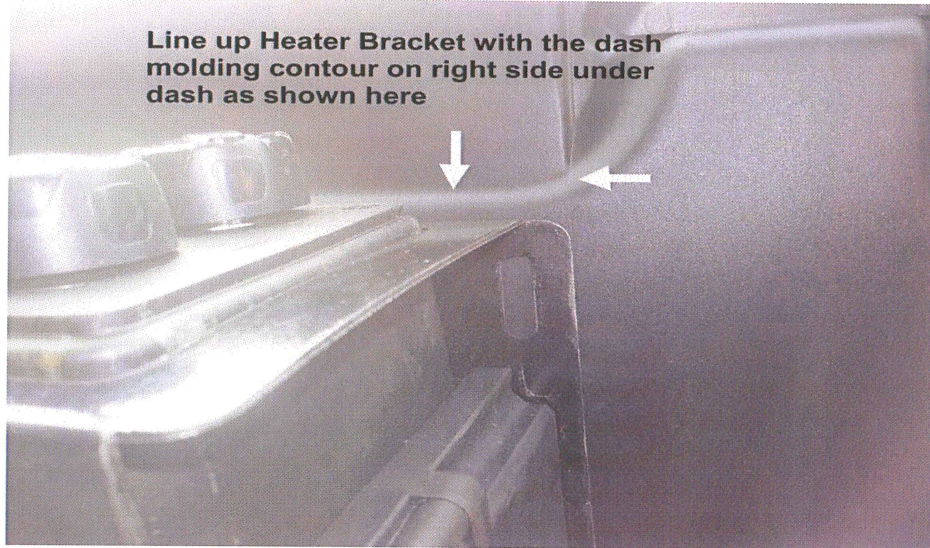

Figure 2
6. Line up the main heater mounting bracket with the dash molding contour on the right side under the dash as shown in Figure 2.